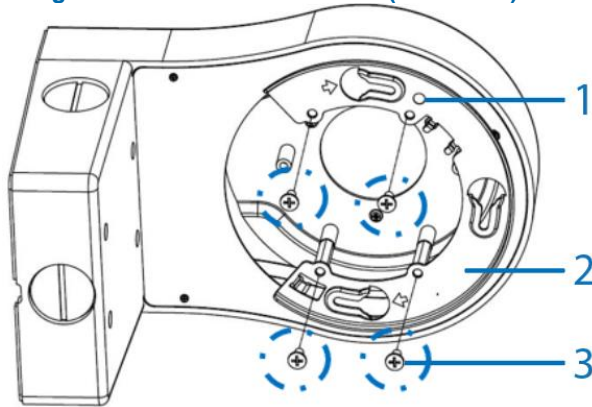

Figure 12
2. Insert the flat bracket (2) (Figure 12) up into the wall mount and align the four holes on the flat bracket (1) (Figure 12) with the four holes on the four standoffs.
3. Insert the four screws (3) (Figure 12) into the four holes and use a screwdriver to securely attach the flat bracket to the wall mount.